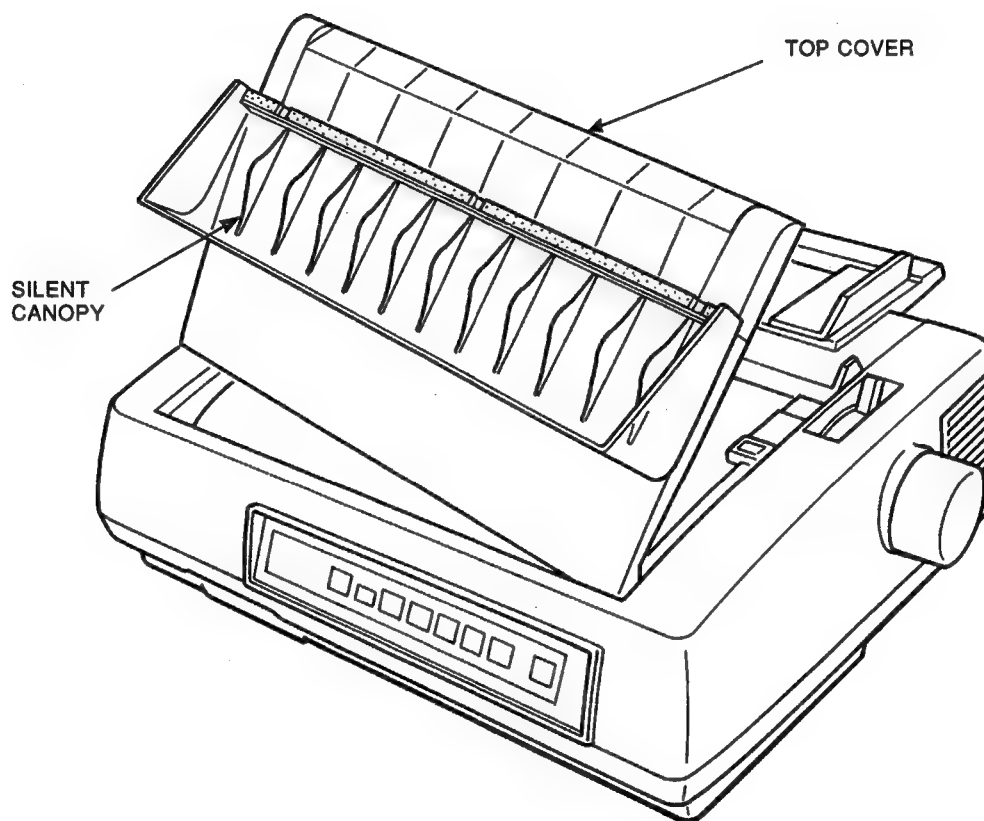

Figure 3-1 Top Cover
1. Open the top cover with the silent canopy by lifting it toward you (see Figure 3-1).